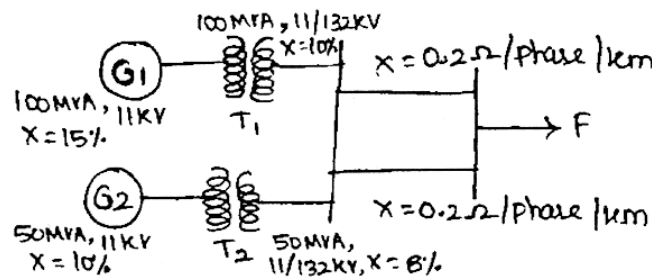

Figure. 13(b)
- (b) Figure 13.(b) Shows a generating station feeding a 132 KV system. Determine the total fault current, fault level and fault current supplied by each alternator for a 3 — phase fault at the receiving end bus. The line is 200 km long. Take a base of 100 MVA, 11 KY for LV side and 132 KV for HT side. (16)